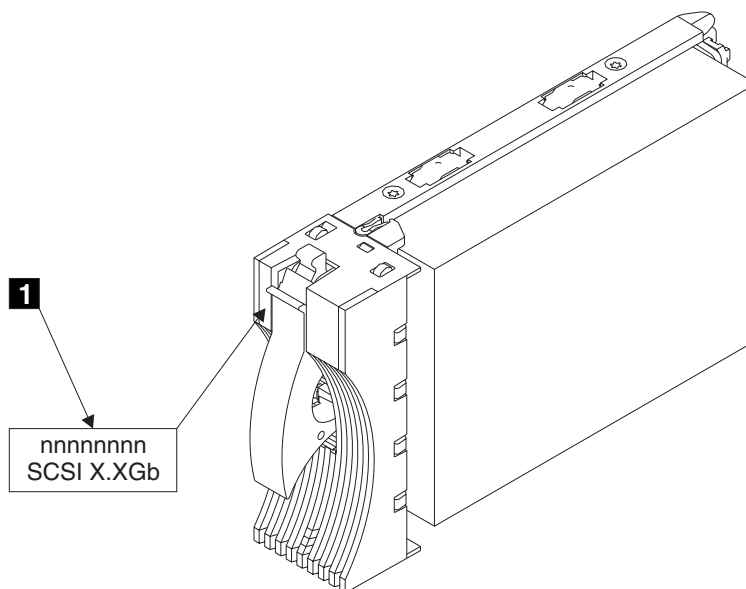
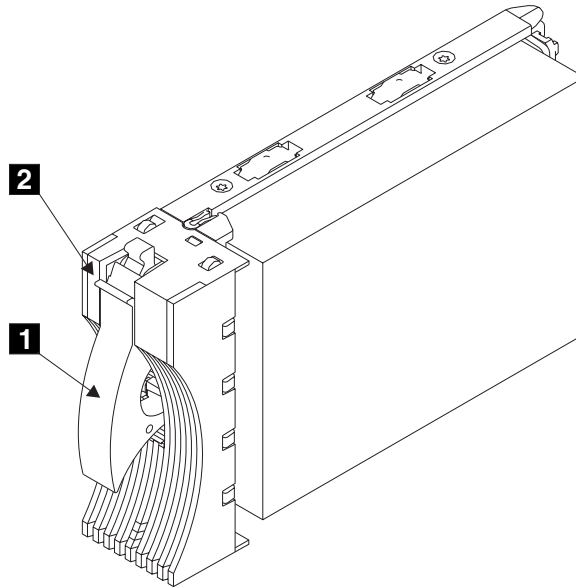

Figure 14. Disk Drive Module Label
Figure 17. Disk Drive Module Handle and Label
2. You have the correct disk drive module. Refer to Figure 17. This disk drive module has, at the front, a handle **1** that can be pulled upward to open. The disk drive module should also be the correct size. The size of a disk drive module is shown on a label **2** at the front of the disk drive module. The label is shown in more detail in Figure 14 on page 20.